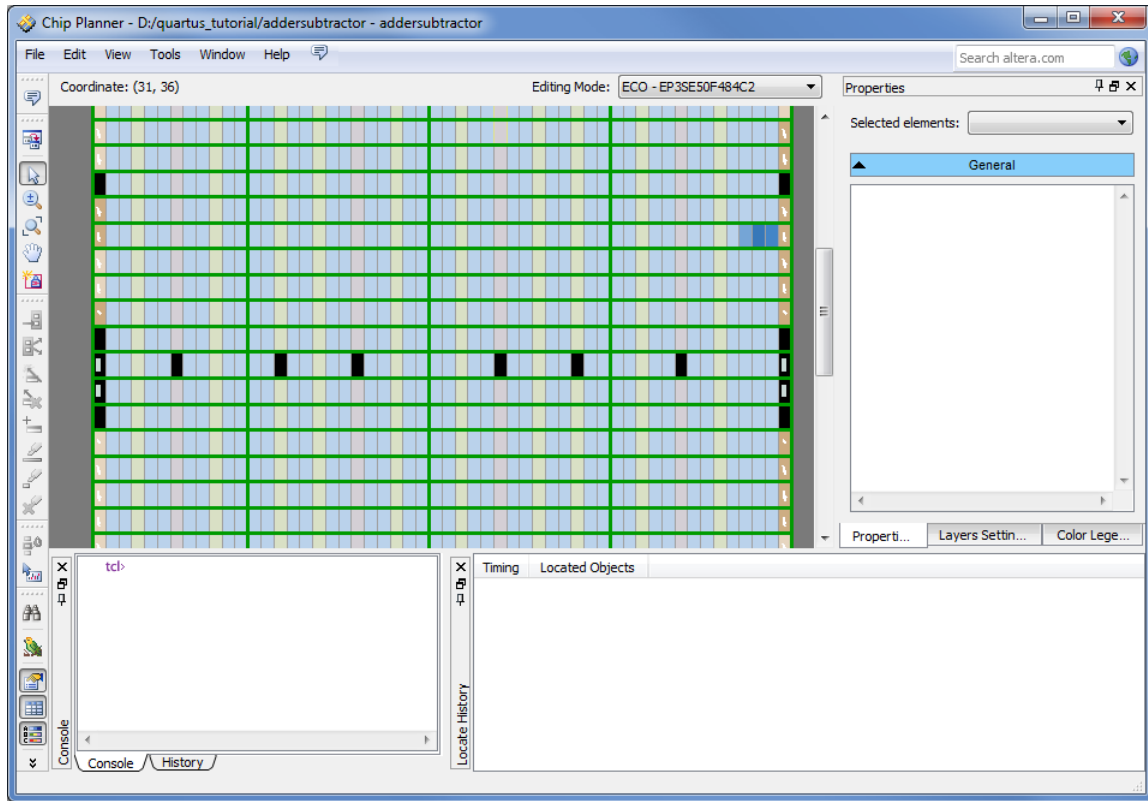

Figure 23: View of the floorplan.
5. An indication of where the circuit is implemented on the chip is available by selecting **Tools > Chip Planner**(Floorplan and Chip Editor), or by clicking on the icon . This opens the Chip Planner display, as shown in Figure 23. This display highlights the location of the logic elements used to implement the circuit. To make the image appear as shown in Figure 23 you may have to select **View > Fit in Window** (shortcut **Ctrl-Alt-w**).